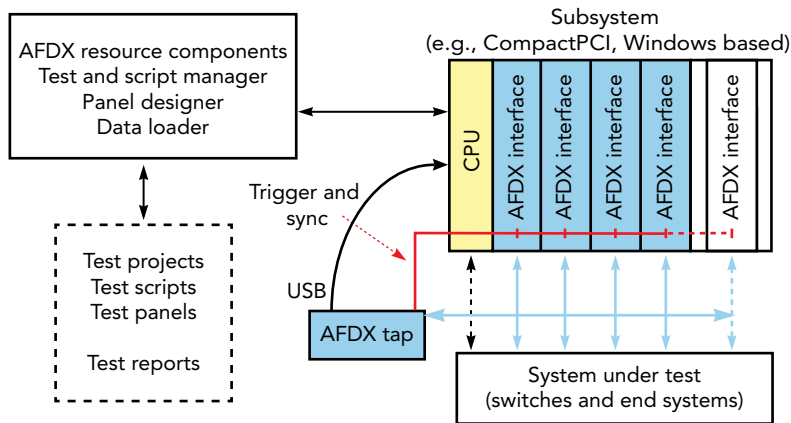

FIGURE 2. The ideal AFDX test system should be able to monitor all traffic, have the ability to modify the data, and be able to report results.
The ideal test system for AFDX should be able to monitor all traffic, modify the data, and report results (**Figure 2**). A platform that combines a network “tap” (which can act in multiple modes), one or more dual-port simulation/analysis modules, and a set of software test tools running on a PC can perform all the necessary testing and troubleshooting. This
- **Tapping capability.** In-line monitoring of AFDX traffic can be useful when debugging networks. Compared to grabbing data from a monitoring port of an AFDX switch, in-line monitoring requires taps, which are ideally nonintrusive and can deliver time-stamped AFDX traffic representing the traffic as it appears on the line. Because AFDX defines redundancy by a duplication of the network connections (“red” and “blue” in Figure 2), in-line monitoring basically requires the monitoring of up to four Ethernet lines in total, two lines (Tx/Rx) per network connection. A tap such as the AIM fdXtap, for instance, can be used either to monitor one redundant AFDX network, up to two nonredundant independent AFDX networks, or even standard Ethernet networks.